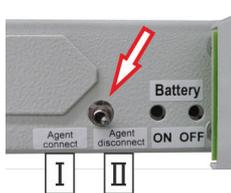

Fig. 45: Blocking switch
- Block all networked systems using the blocking switch (Fig. 45/arrow) prior to performing maintenance work:
switch the blocking switch to "Agent disconnect [blocked]" (Fig. 45/II).